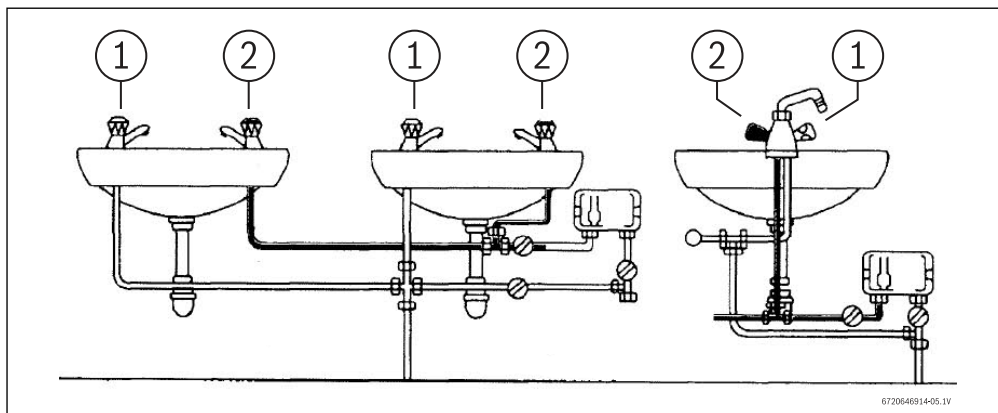

Fig. 4 Examples of installations (Show front view)
- Position the unit as shown (Fig. 4). Remember to keep the length of hot water pipe to a minimum in order to save energy.
- Unit must be mounted as shown in Fig. 4 with plumbing connection on the bottom. Under no circumstances should the unit be mounted differently.